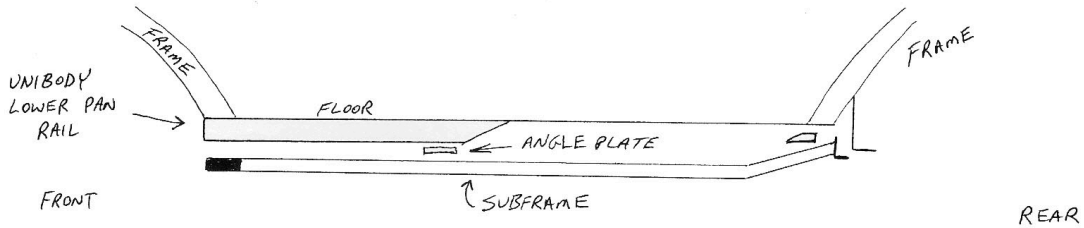

FIGURE 2
5. There are two center support angle brackets 4 inches long in your kit. The bracket attaches approximately in the middle of the subframe where the factory floor support rail ends. It serves to strengthen the middle of the floor by tying it to the round tube subframe. (Figure 2 typical) __ Notice the angle plate in the middle.